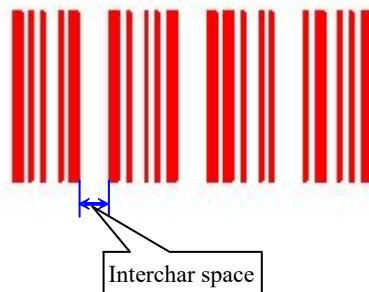

Figure 4-17 Characters' Distance
means middle of the text is superposition with curve, as fig 4-17.
Fig 4-17 middle arrange
**Interchar space:** It is prescribed that some barcodes have distance between characters. (e.g. Code 39) This parameter is used to set this like Figure 4-17 shows.